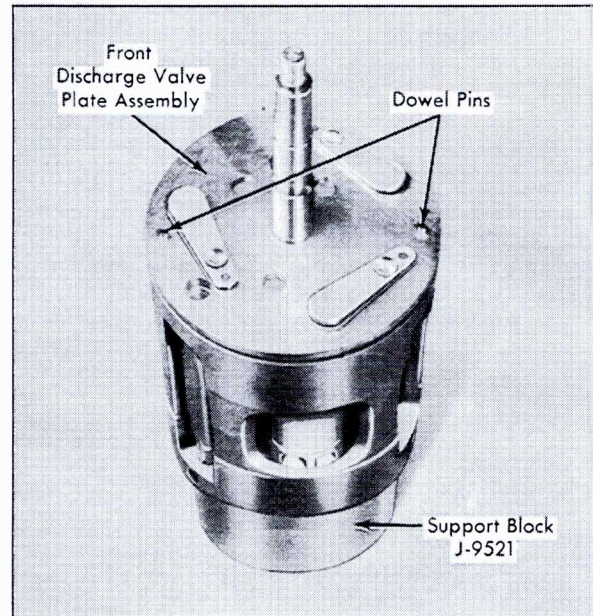

Fig. 1-72 Installing Front Discharge Valve Plate
5. Install front discharge valve plate assembly, aligning holes with dowel pins and proper openings in front suction reed plate, Fig. 1-72.